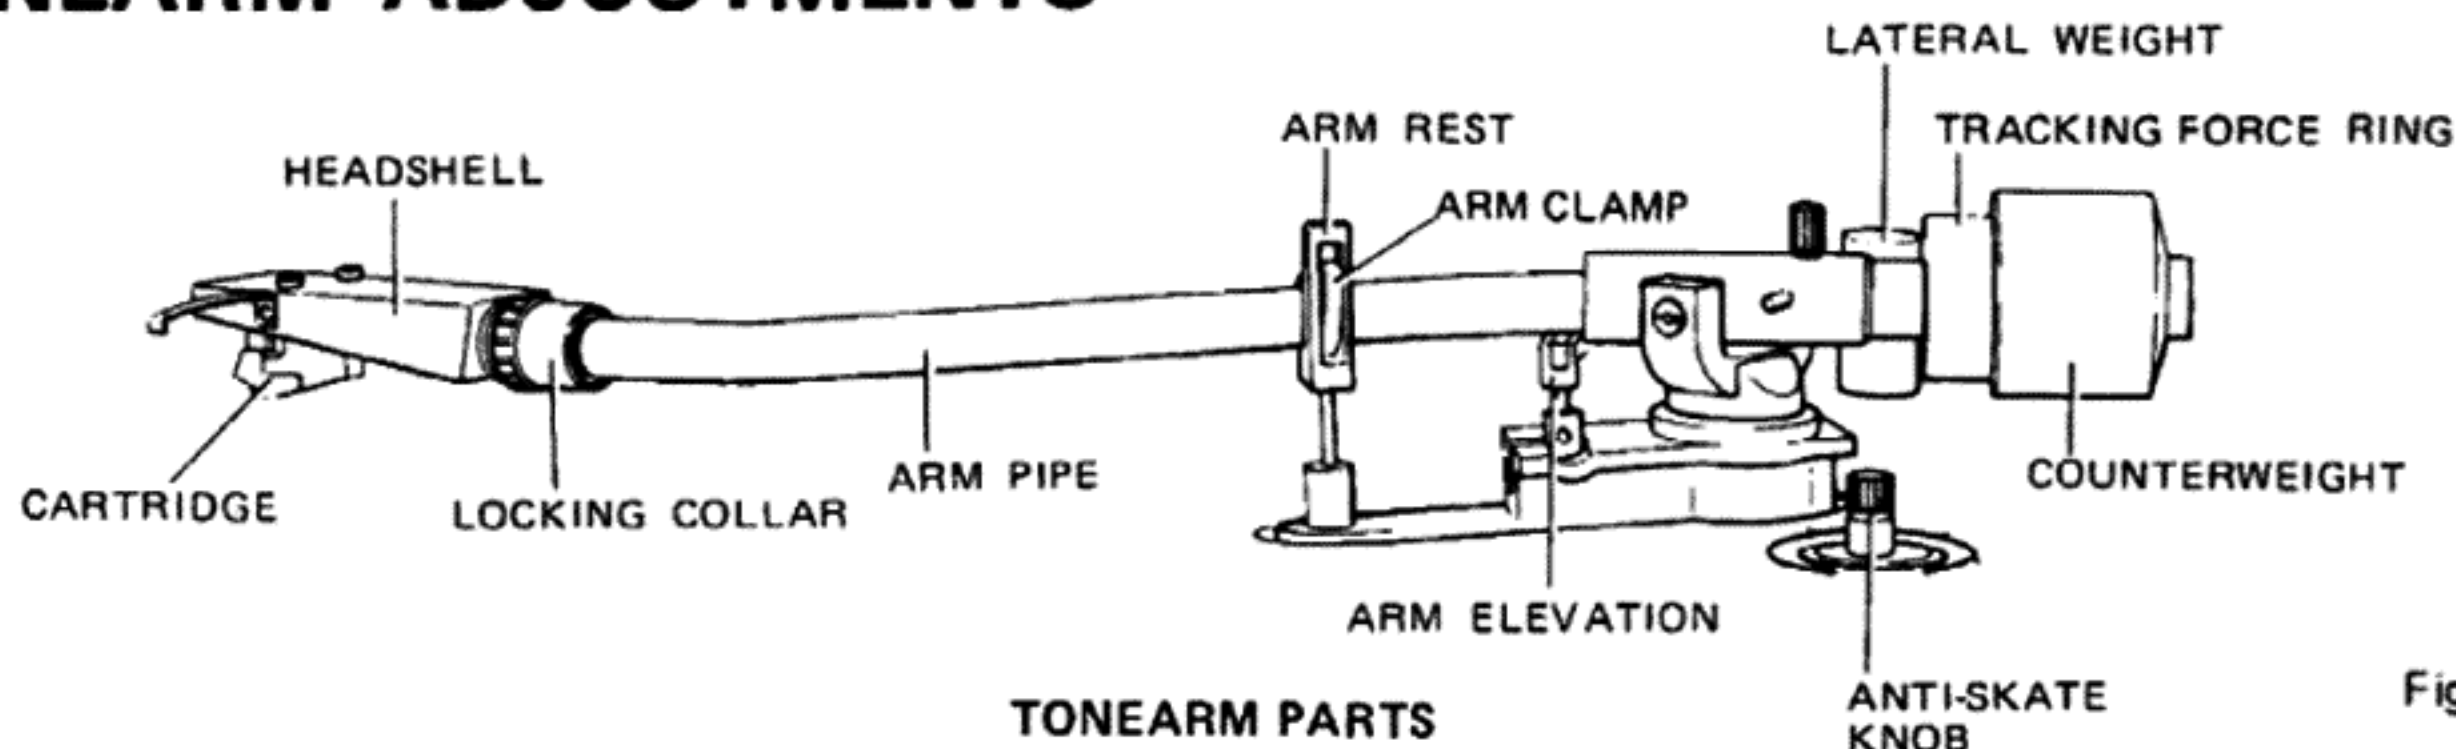

Fig. 12
1. Set ANTI-SKATE knob to 0 (Figs. 12 and 14).